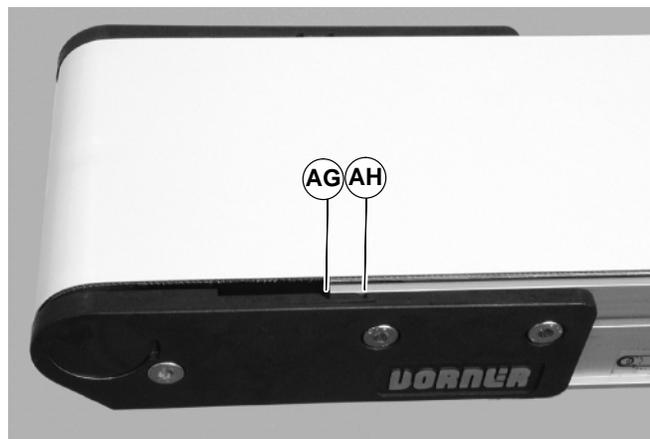

Figure 31
2. Adjust head plate assembly so end of conveyor frame aligns with or between the head plate tensioning marks (AG & AH of Figure 31). Replace belt if proper tensioning can not be obtained while aligning the end of the conveyor frame with or between the tensioning marks. See **NOTE**.